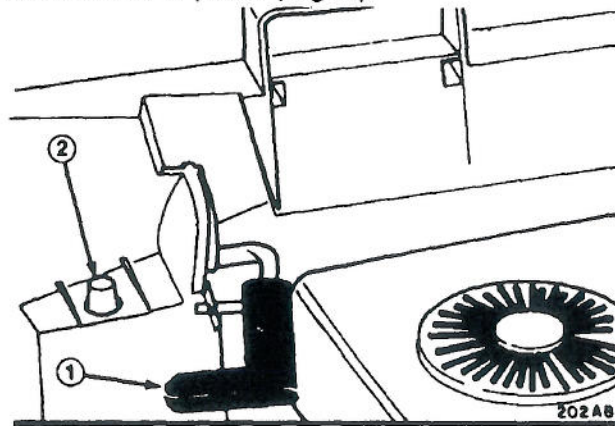

Figure 3
1. Assure chute door handle is fully forward and locked in place (Fig. 3).
2. Slide guide hole in upper bag frame onto locating stud on mower housing (Fig. 3); then set rear of bag frame onto lower handle crossbar.